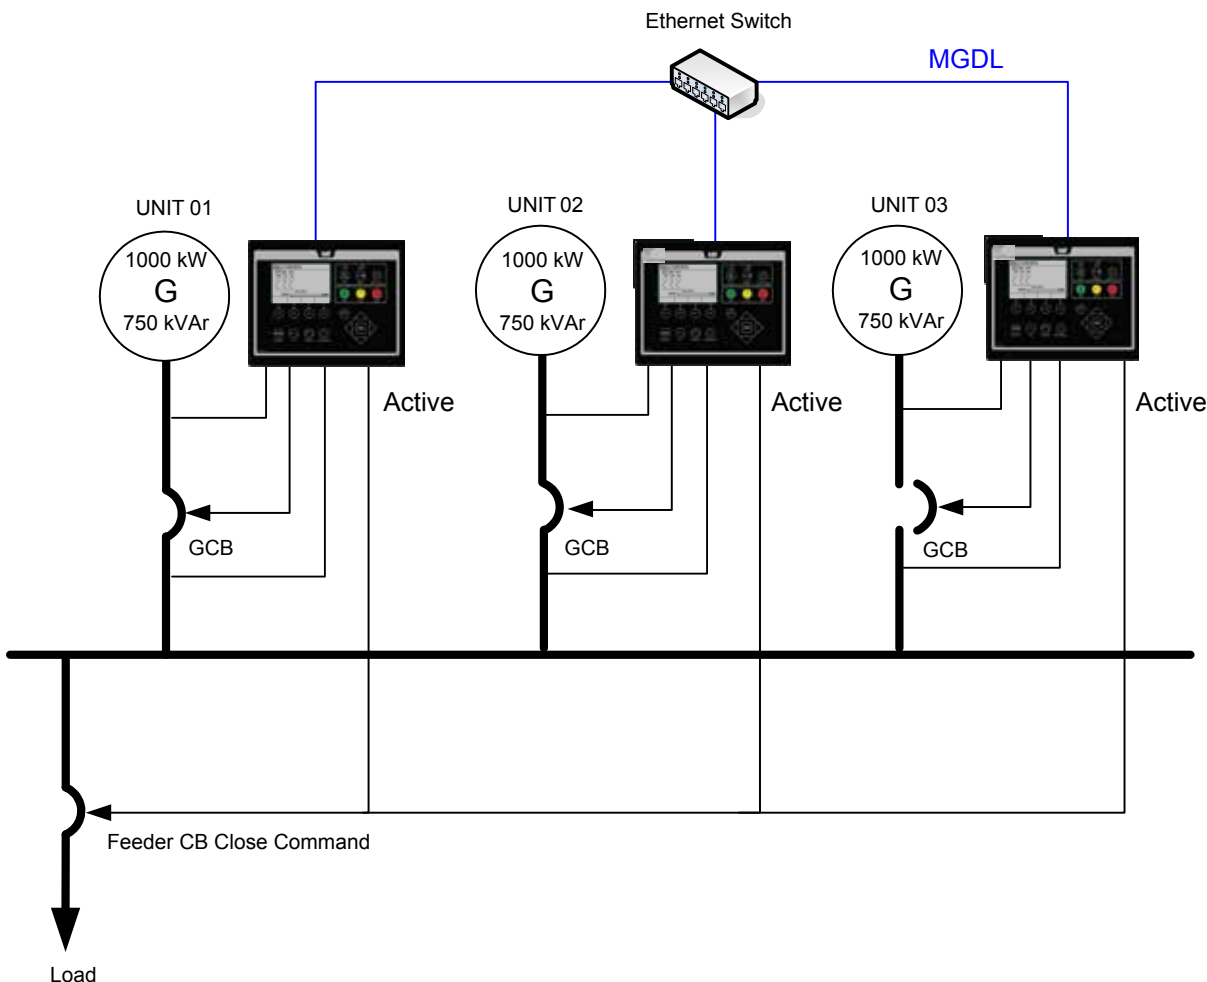

Figure 37.22 – MGD L Feeder Breaker Control Example
Figure 37.22 depicts an example of 3 MGDL units configured for Feeder Breaker Control. In this example each unit is assumed to be 1000 kW, 750 kVAR rated generator sets. Also assumed is that each unit is configured such that *Minimum Real Power Required for Load Bus #1* = 2,000 kW and *Minimum Reactive Power Required for Load Bus #1* = 1,500 kVAR. With this configuration and with Unit 01 and Unit 02 closed to the bus, the feeder breaker close command output will be active for all three (3) units.